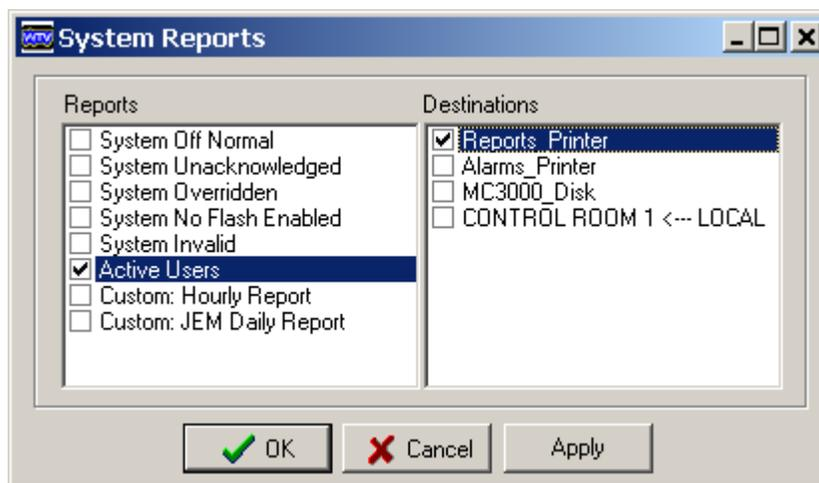

Figure 7. System Reports Window
**SYSTEM REPORTS:** To generate a system report, click this text to display the System Report Window (Figure 7). Check the reports and destinations and then click the Apply button. The reports available in this window apply to system wide data.